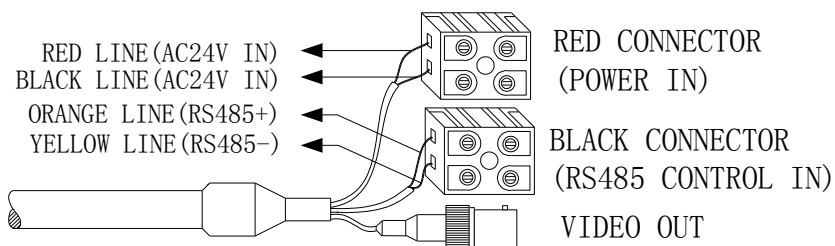

Figure 14
11. Connect the control wires of the system as per Figure 14.